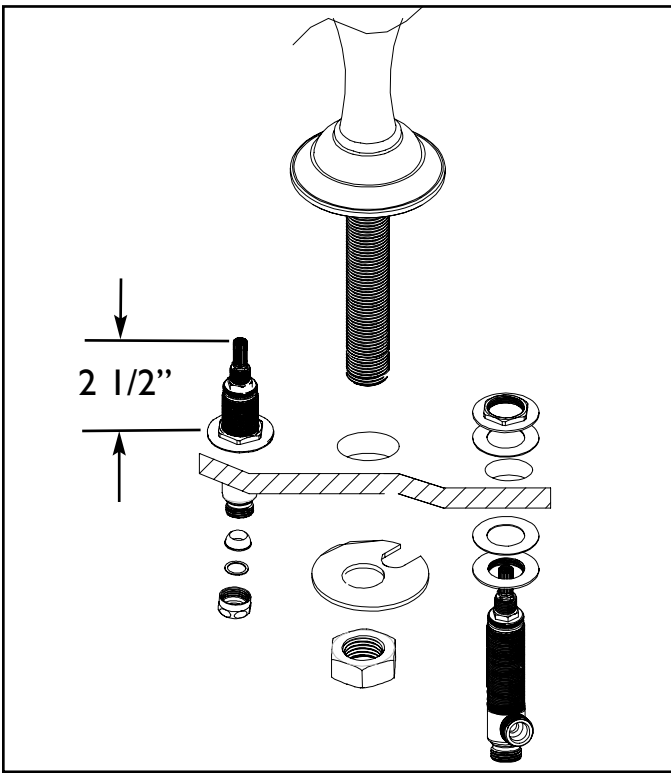
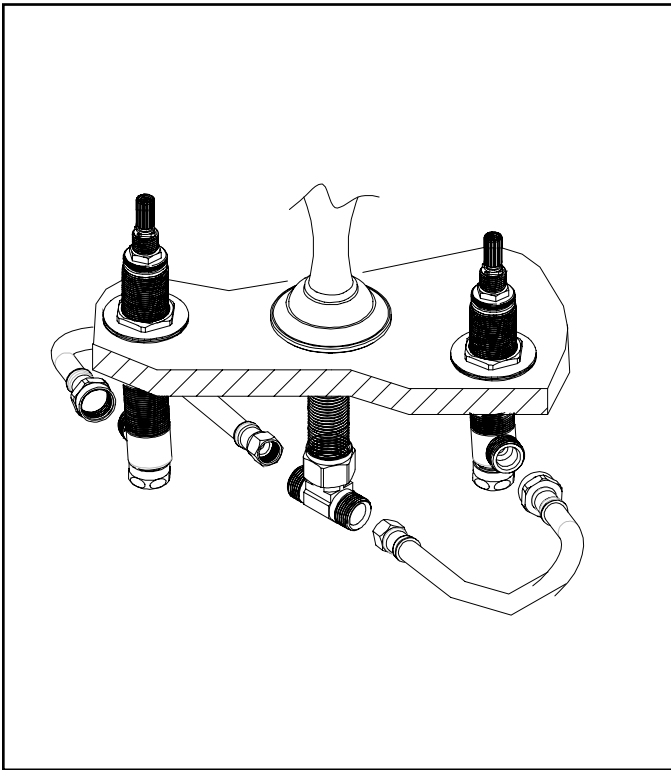

Figure 1
Figure 3
1. Place the spout shank through center hole of mounting surface. Secure spout, (spout base ring, if supplied), into place with spout washer and nut (align the washer's slot in direction of pop-up rod). See Fig. 1
2. Place nut & washer on valve body. Insert body, (blue cold & red hot), through hole in the mounting surface. Adjust and secure with additional washer and nut so that the top of valve is **2-1/2"** above top of mounting surface. See Fig. 1.
4. Connect a flexible hose to side outlet of each valve body. Attach other end of hoses to either side of the tee. (Hand-tighten and secure each connection with a wrench 1/4 turn.) See Fig. 3
5. Attach hot/cold water supply hoses (not included) to appropriate valve, see Fig. 3, utilizing cone washers, friction rings and nuts supplied. See Fig. 1